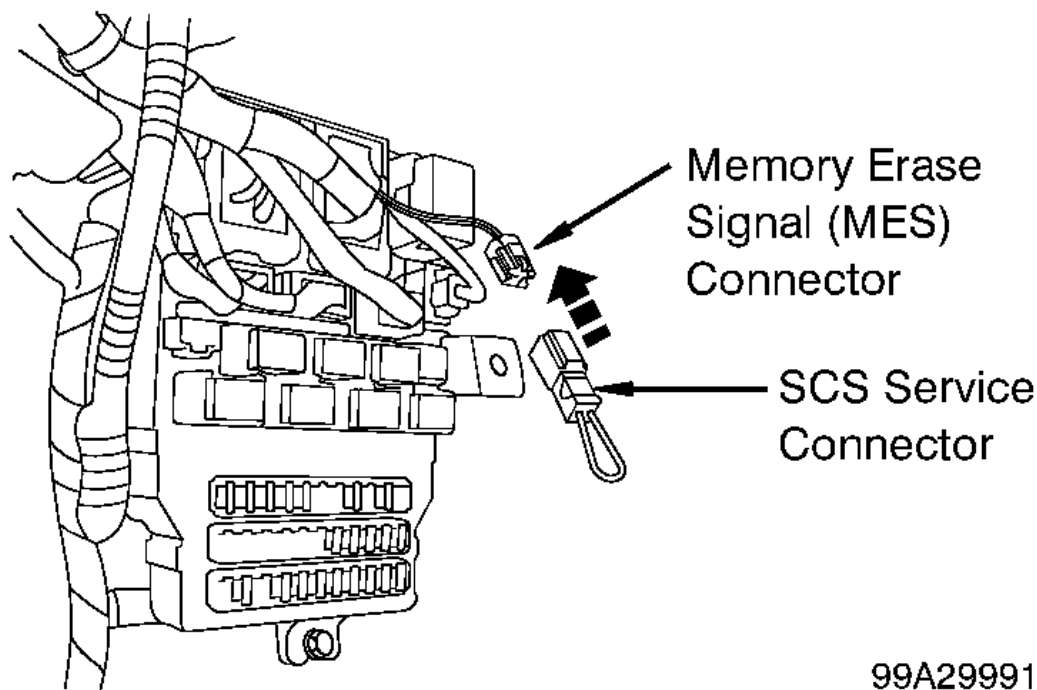

Fig. 30: Locating Memory Erase Signal (MES) Connector
1. Turn ignition off. Connect SCS Service Connector (07PAZ-0010100) to Memory Erase Signal (MES) connector. See **Fig. 30**.